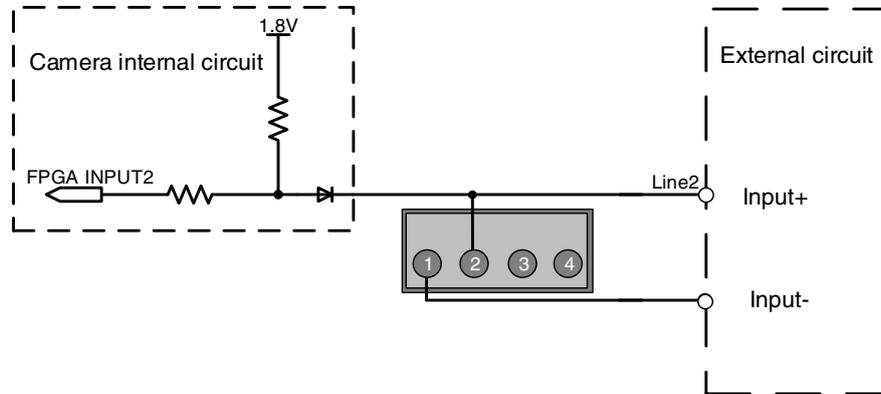

Figure 7-18 Internal equivalent circuit of all-in-one / split USB3.0 camera when Line2 is configured as input
- When Line2/3 is configured as input, the internal equivalent circuit of camera is shown in Figure 7-18, taking Line2 as example